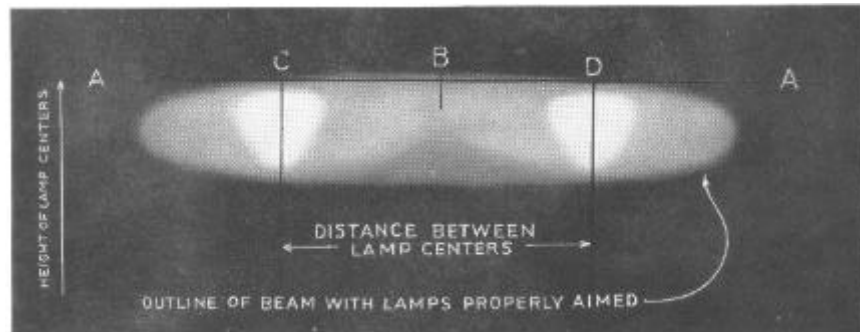

Figure 20
Place the car on a level floor or driveway squarely in front of a white wall or screen at a distance of twenty-five feet. Draw a horizontal line (AA), Figure 20,